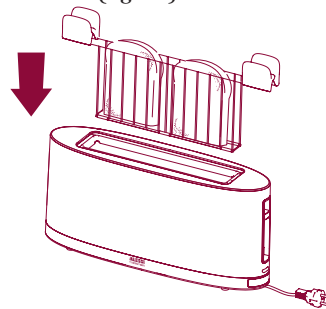

Fig. 14
- 2 Close the rack and place it in the Toaster (fig. 14).